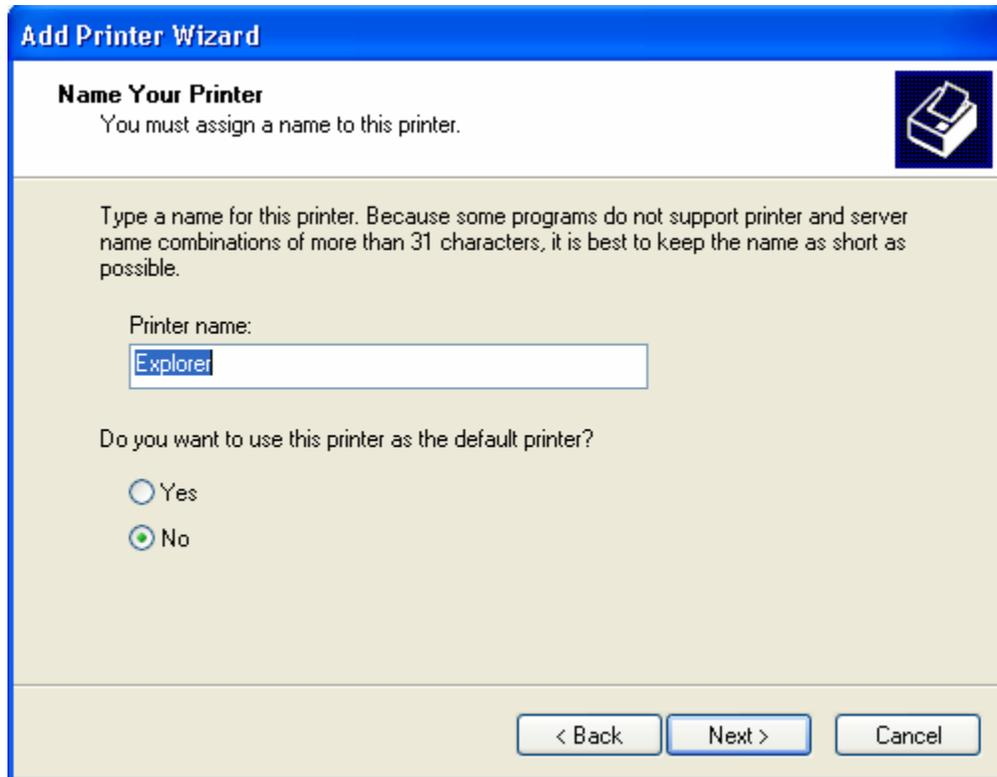

Fig. 4-11 Print Driver Installation
STEP 12: Input Printer name **Explorer II**, select **NO** if you don't want to use this printer as the default printer and click **NEXT STEP** (see fig. 4-11)